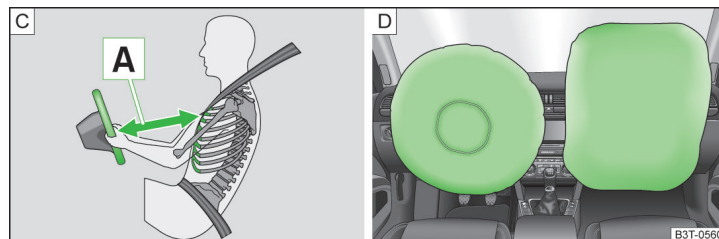

Fig. 9 Safe distance to steering wheel/gas-filled airbags
The airbags inflate in front of the driver and front passenger when they are deployed » Fig. 9 - [C]. The forward movement of the driver and of the front passenger is cushioned when they make contact with the fully inflated airbag and the risk of injury to head and chest is thus reduced.
- For the driver and front passenger, it is important to maintain a distance of at least 25 cm from the steering wheel or dashboard **A** » Fig. 9. Not maintaining this minimum distance will mean that the airbag system will not be able to properly protect you - hazard! The front seats and the head restraints must always also be correctly adjusted to match the body size of the occupant.